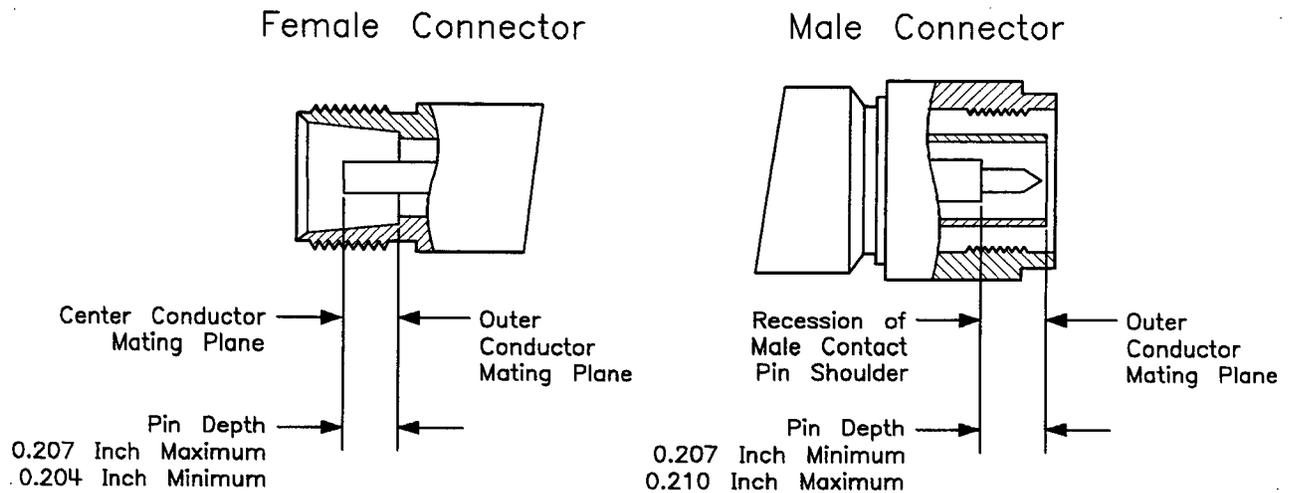

Figure 5-3. Connector Pin Recession and Protrusion
4. Gage the connector to see if the pin depth is within tolerance. Refer to Figure 5-3.
6. Gage the connector to see if the pin depth is within tolerance (0.204 to 0.207 in). Refer to Figure 5-3.